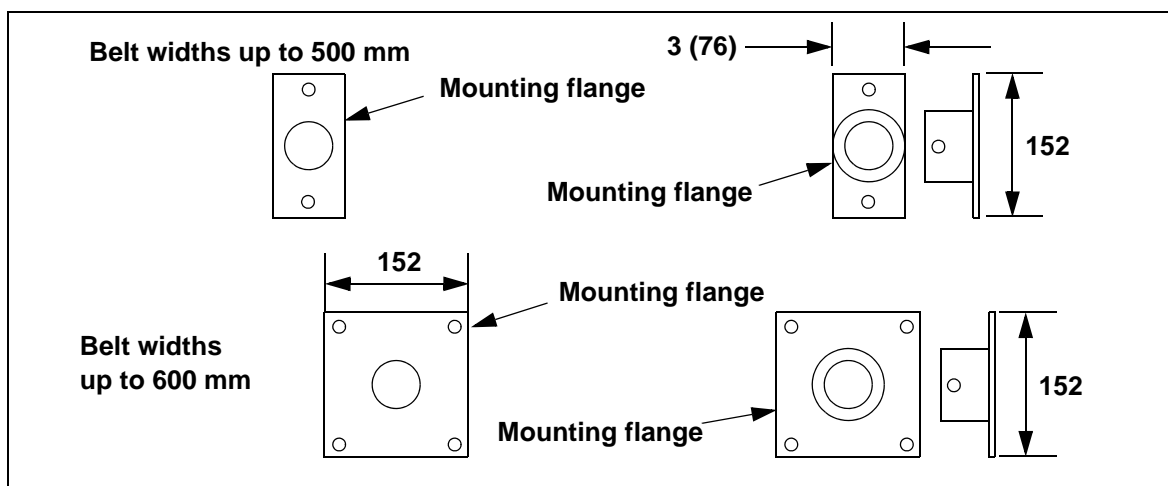

Fig. 4: MARTIN® TORSION ARM™ V-Plow mounting flange
5. Note Fig. 4. Mark the position of the mounting holes as follows: